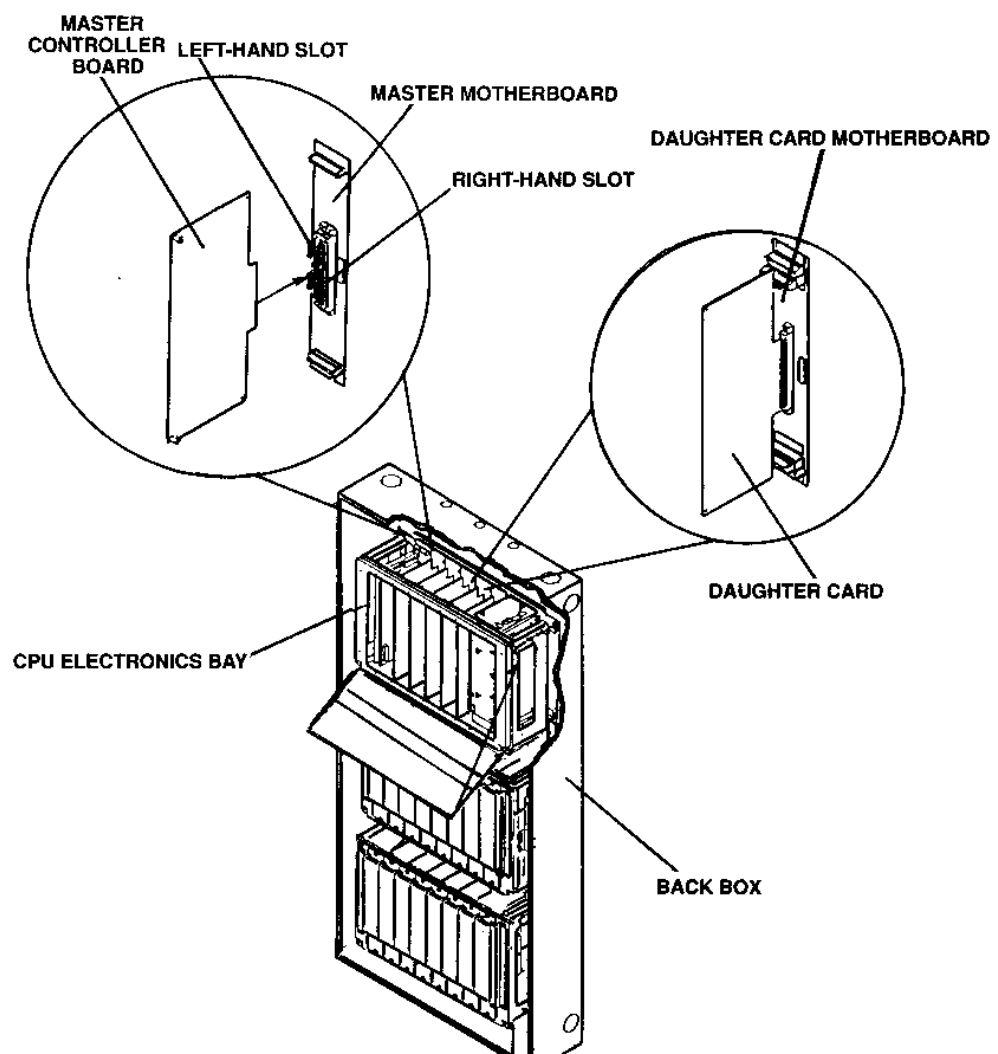

Figure 3 Installing the System Cards
3. Carefully install the Master Controller Card in the left hand slot on the Master Motherboard, located in the CPU bay (See Figure 3.)
4. **4100 Panels:** Carefully install the RS-232/2120 Communication Card (if Supplied) in the right hand slot on the Master Motherboard (See Figure 3).
5. **4120 Network Panels:** Carefully install the RS-485 Network Interface Card in the right hand slot on the Master Motherboard (See Figure 3).
6. Carefully install each daughter Card into its proper slot on its motherboard (See Figure 3.), making certain that the preset configuration of the daughter card address switch, SW1, matches the daughter card address label (located next to the daughter card's motherboard).